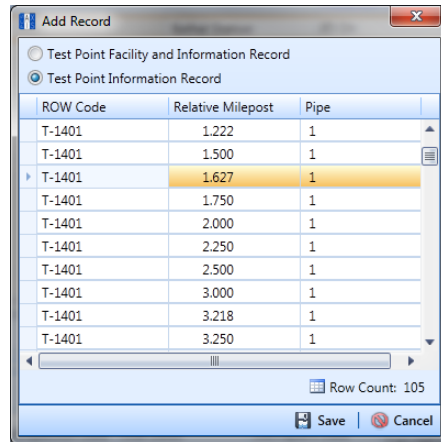

Figure 7-27. Add Record
- 5 Click  **Add** to open the *Add Record* dialog box. (Figure 7-27, page 238).
- 7 Select a facility record in the *Add Record* dialog box that you want to create a history record. For example, the facility record with *Relative Milepost 1.627* is selected in the following figure (Figure 7-27, page 238).